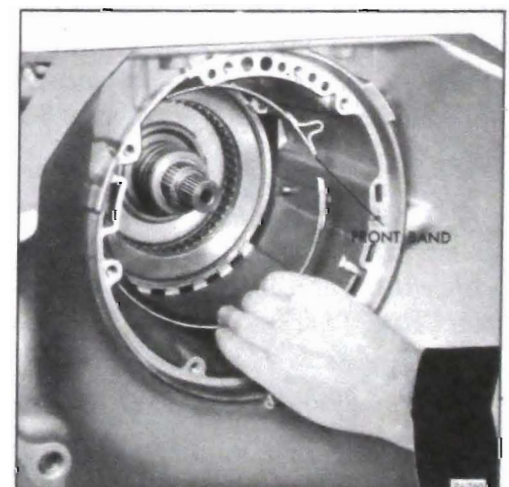

Figure 76-760
16. Install front band with band anchor hole placed over the band anchor pin and apply lug facing servo hole. See Figure 76-760.